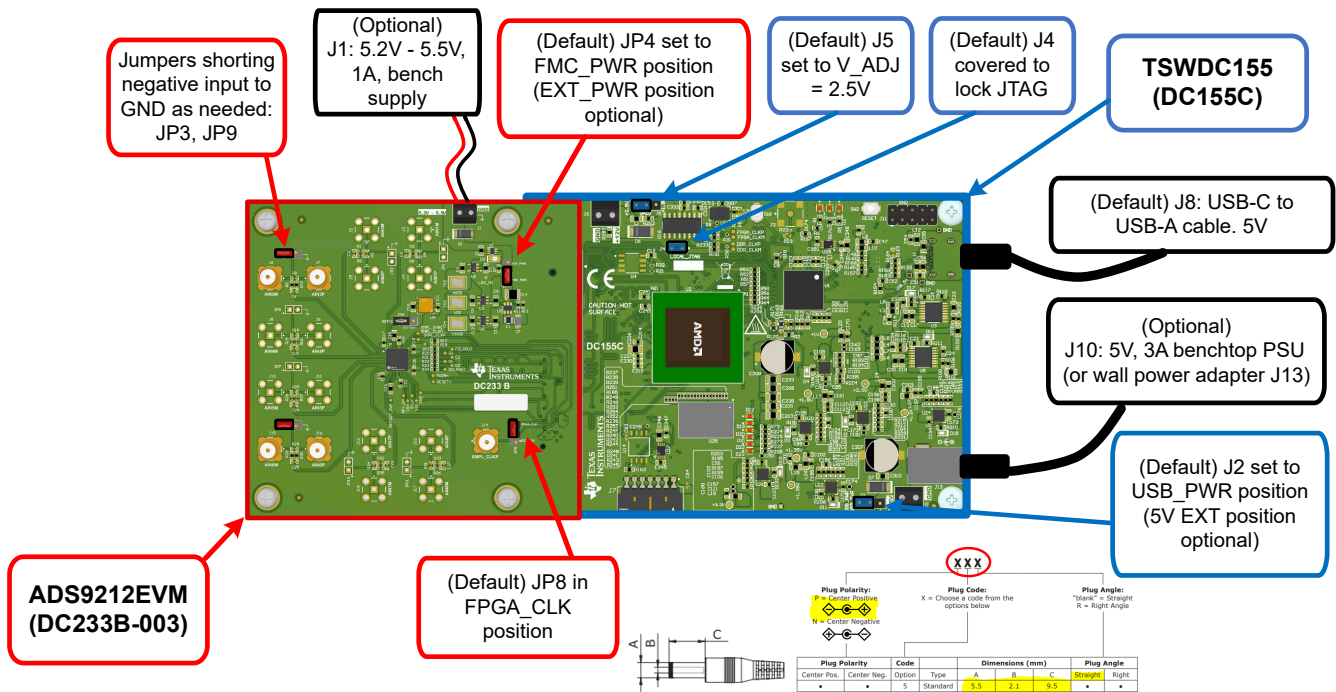

Figure 2-1. Connecting the Hardware
1. Review the default jumper settings in Figure 2-1 below and the power guidelines in Section 2.2.1.